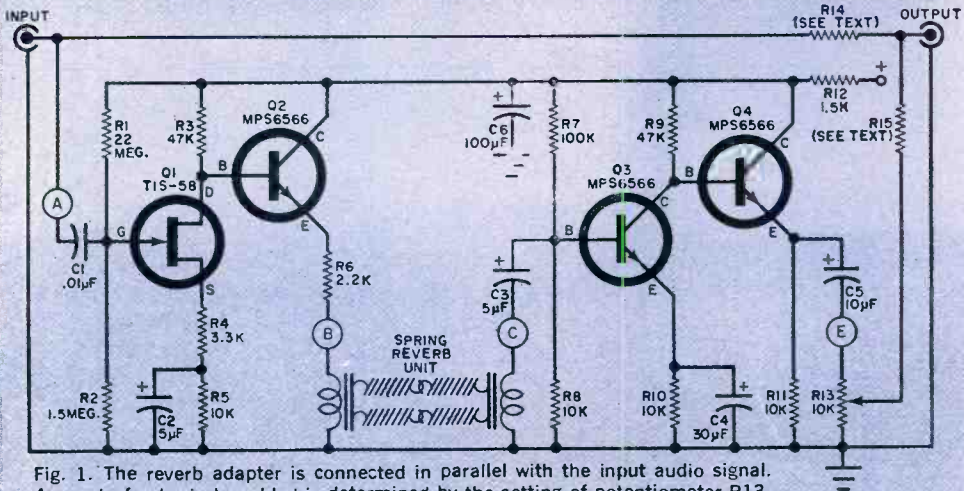
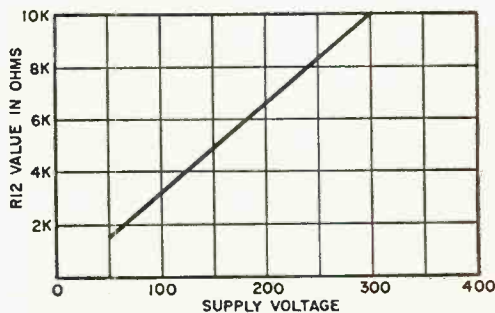

Fig. 1. The reverb adapter is connected in parallel with the input audio signal. Amount of echo to be added is determined by the setting of potentiometer R13.
Fig. 6. To determine value of  $R12$  at high voltages, draw a vertical line from the voltage to the reference line, then go horizontally to locate the value.
**Construction.** Putting the reverb adapter (Fig. 1) together is simplified by using the printed-circuit board shown actual size in Fig. 2. Install the components on the PC board in accordance with Fig. 3. The usual PC board construction techniques should be observed—all parts should be mounted close to the board; use rosin-core solder, do not overheat when soldering, and do not form solder bridges across the foil sections. Clip all component leads close to the solder.
while the four phono jacks are mounted along the rear apron. Connect short pieces of insulated wire between points A, B, C, and E of the PC board and their respective phono jacks (see Fig. 1).
either the "Brute 70" or "L'il Tiger." The value of  $R12$  shown in Fig. 1 is correct for use with power supplies between 40 and 50 volts. For higher voltage sources, such as are found in vacuum-tube equipment, the value of  $R12$  will have to be increased to a value that delivers the approximately 30 volts required by the reverb adapter, as shown in Fig. 6.